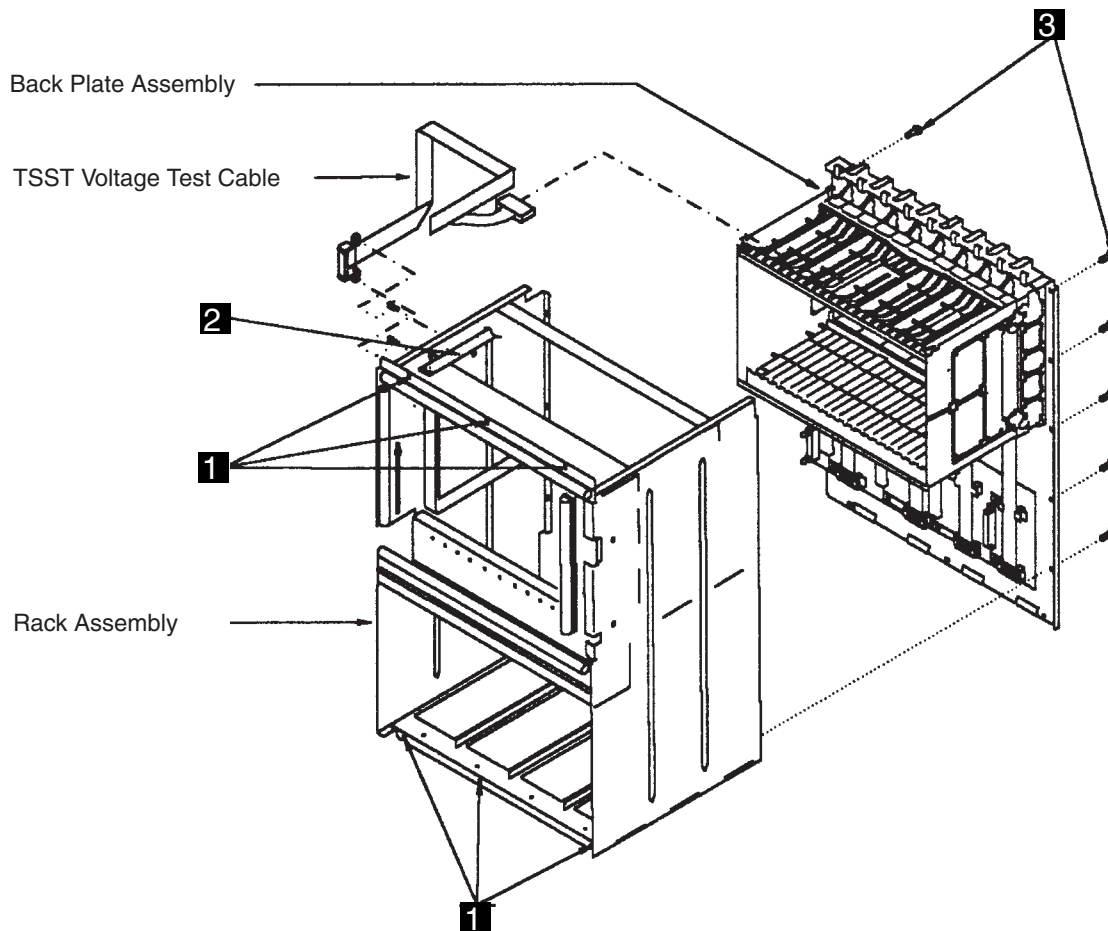
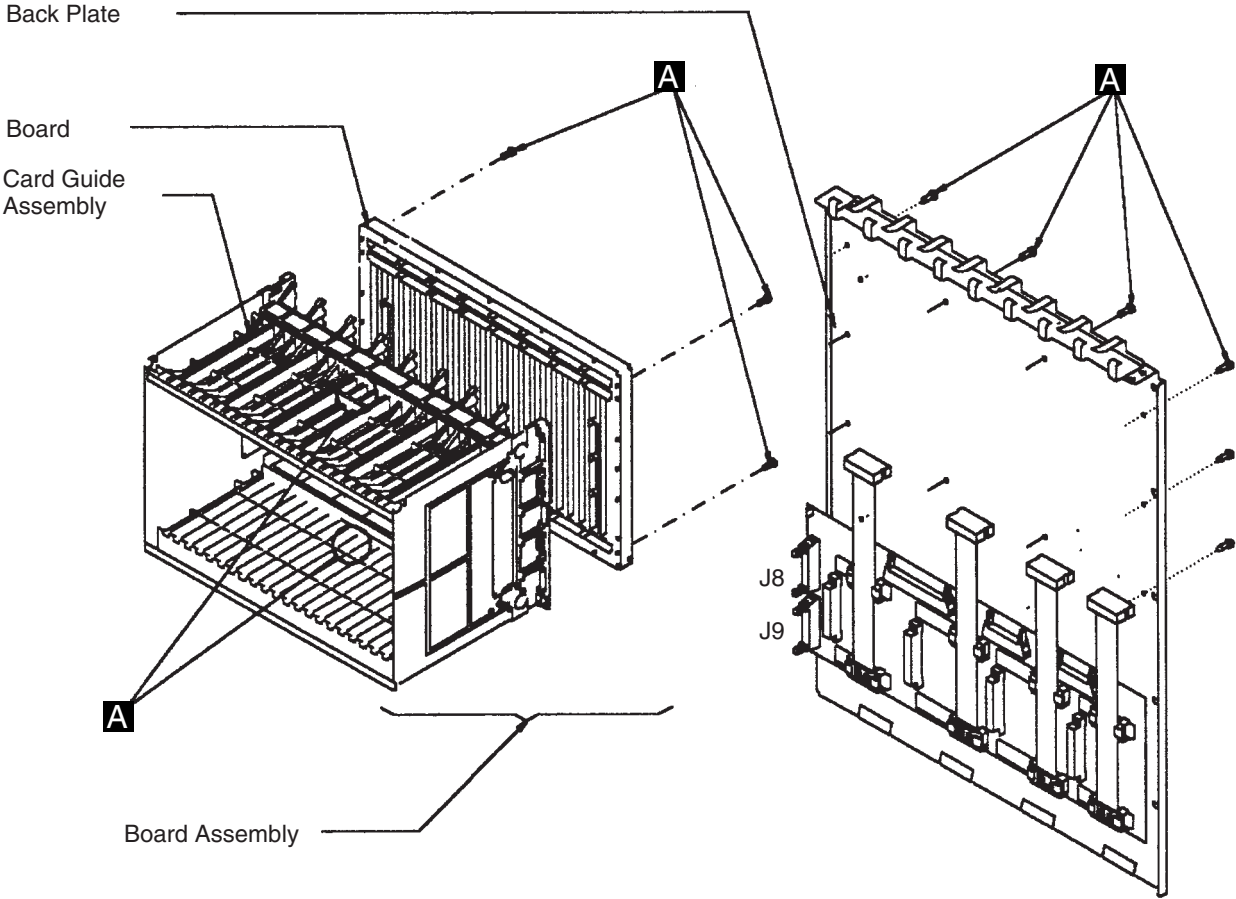

Figure 4-133. Enclosure for the Line Adapter Board
Figure 4-134. Back Plate Assembly
- d. Refer to Figure 4-134 on page 4-145 and remove the power connectors 01H-J8 and 01H-J9.
- d. Refer to Figure 4-134 on page 4-145 and remove the power connectors 02B-J8 and 02B-J9.
- d. Refer to Figure 4-134 on page 4-145. Remove the power connectors 02G-J8 and 02G-J9.
- d. Refer to Figure 4-134 on page 4-145. Remove the power connectors 03G-J8 and 03G-J9.
12. Refer to Figure 4-133 on page 4-144 and Figure 4-134 on page 4-145, and do the following:
1. Refer to Figure 4-133 on page 4-144 and Figure 4-134 on page 4-145 and do the following: